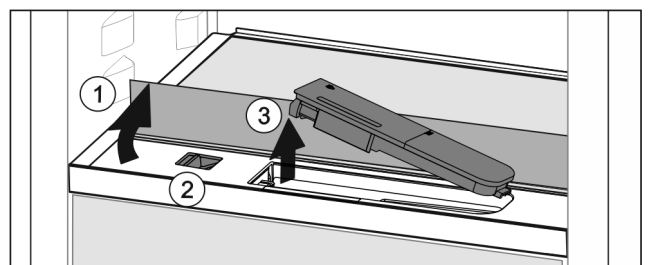

Fig. 164
- ▶ Lift the glass panel and fold towards the rear until it clicks into place *Fig. 164 (1)*.
- ▶ Slide the slider *Fig. 164 (2)* to the left.
- ▶ Remove the water tank *Fig. 164 (3)*.